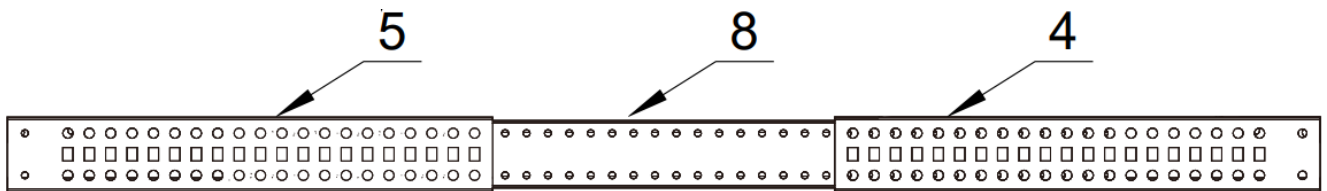

Figure 1
1. Align the Left corner Brackets(#4)and the Right corner Brackets(#4) with the Center Sections(#8),slide the Corner Brackets overtop of the Center Sections.(Figure 1)